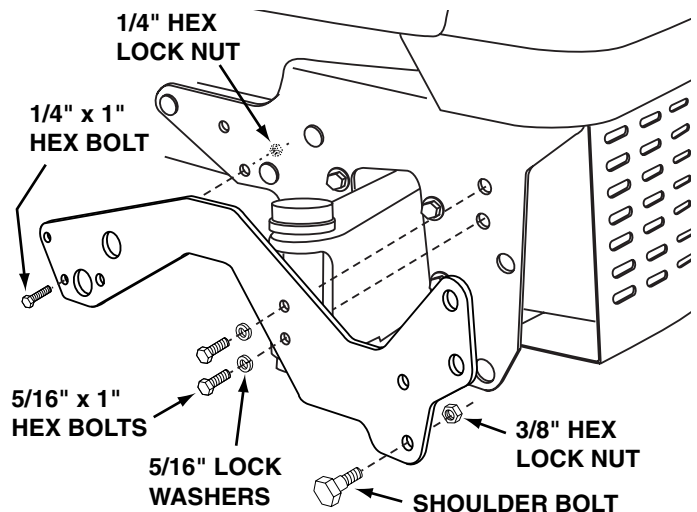

Figure 2
8. Attach a frame bracket to each side of the tractor frame. Use two 5/16" x 1" hex bolts and 5/16" lock washers in the holes shown in front of the axle. Use a 1/4" x 1" hex bolt and 1/4" hex lock nut in the rear hole as shown. **Tighten carefully** to avoid stripping threads in tractor frame. See figure 2.
9. Assemble a shoulder bolt and a 3/8" hex lock nut to the **lower** hole in each frame bracket as shown in figure 2.